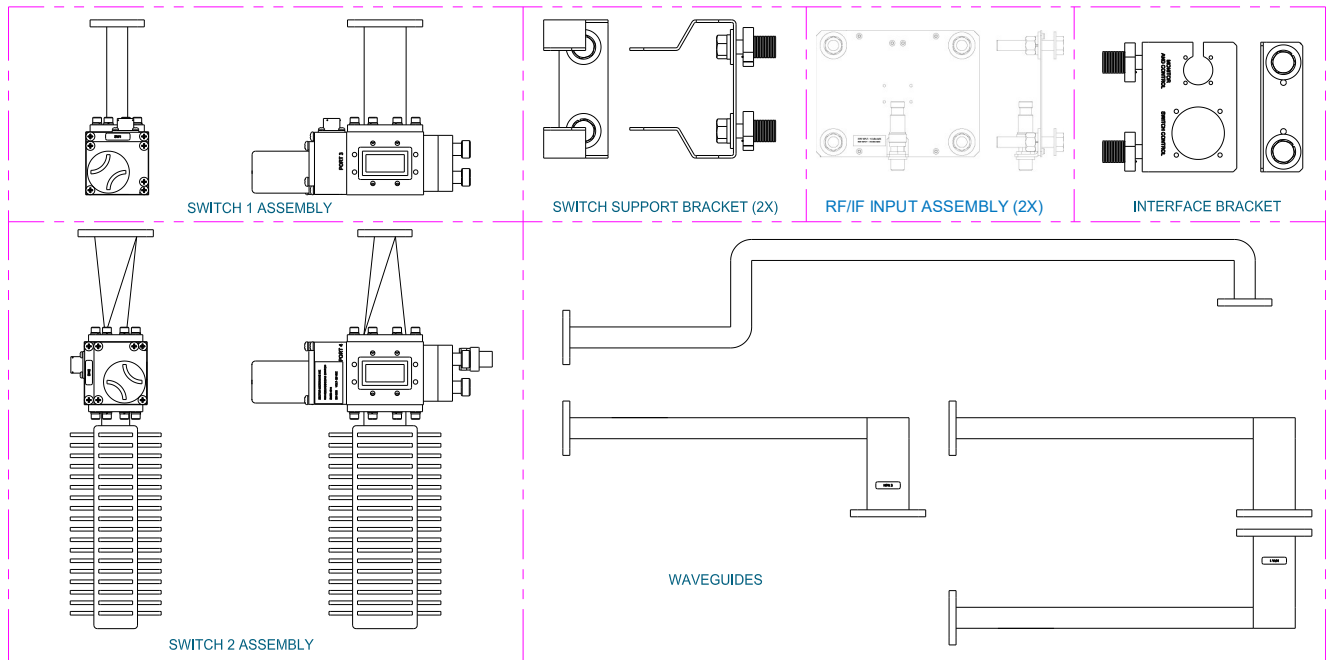

Figure 2-11: C-Band Components, Switches, Support Brackets, and Waveguide
The redundant system was shipped with the following components that comprise the waveguide switch array: a switch 1 assembly, a switch 2 assembly with termination, two (2) switch support brackets, an interface bracket, two (2) RF/IF input assemblies, and waveguide segments that connect between the output of the HPAs and the switches. See **Figure 2-11**.